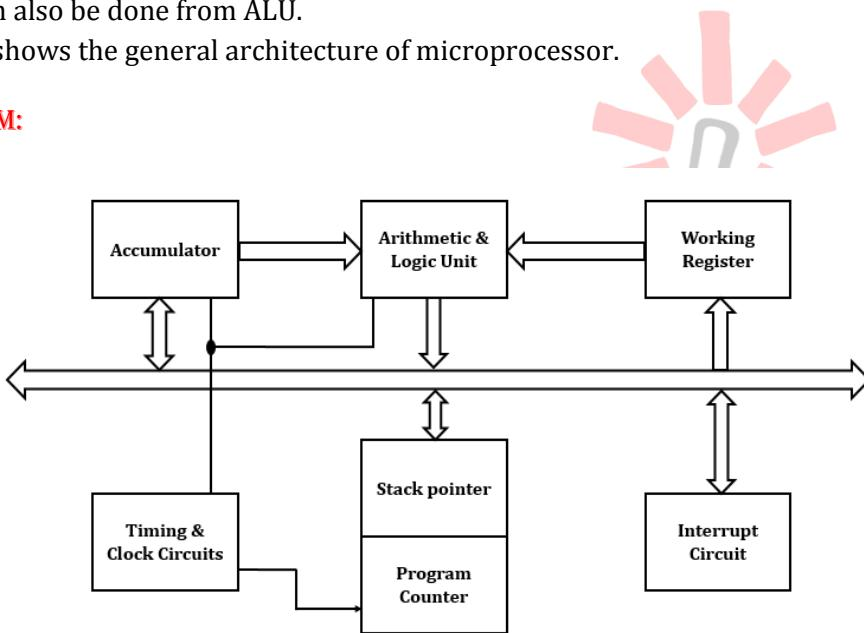

Figure 1.9: General Architecture of Microprocessor.
4. Figure 1.9 shows the general architecture of microprocessor.